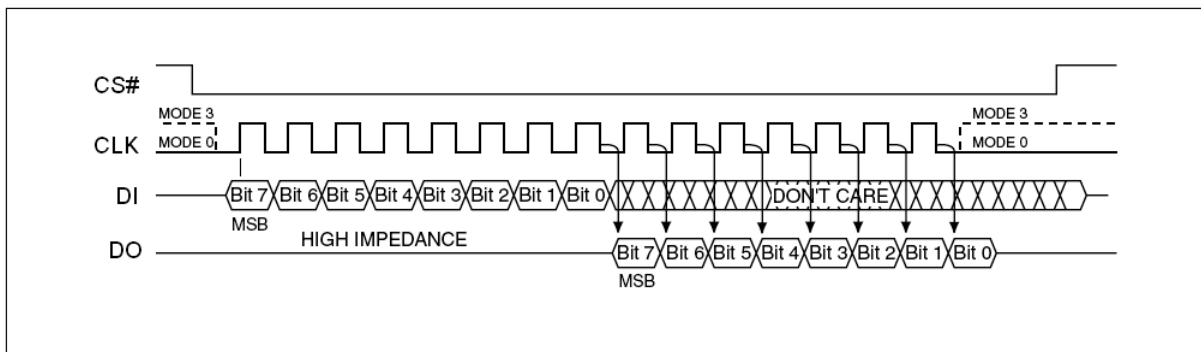

Figure 3. SPI Modes
The device is accessed through a SPI compatible bus consisting of four signals: Serial Clock (CLK), Chip Select (CS#), Serial Data Input (DI) and Serial Data Output (DO). Both SPI bus operation Modes 0 (0,0) and 3 (1,1) are supported. The primary difference between Mode 0 and Mode 3, as shown in Figure 3, concerns the normal state of the CLK signal when the SPI bus master is in standby and data is not being transferred to the Serial Flash. For Mode 0 the CLK signal is normally low. For Mode 3 the CLK signal is normally high. In either case data input on the DI pin is sampled on the rising edge of the CLK. Data output on the DO pin is clocked out on the falling edge of CLK.